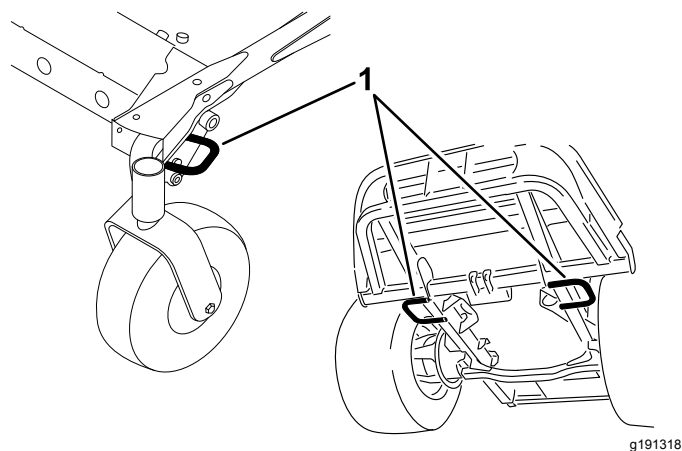

Figure 27
5. Use the tie-down loops on the machine to securely fasten it to the trailer or truck with straps, chains, cable, or ropes (Figure 27).